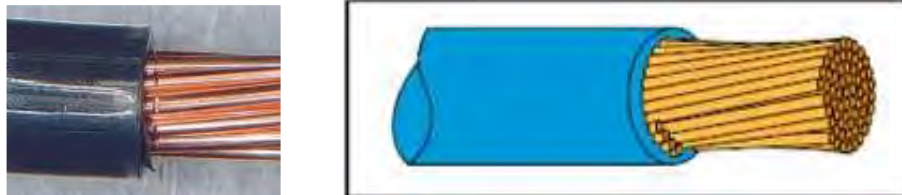

Figure 231
1. Broken, nicked, or cut strands as listed below and shown in Figure 231.